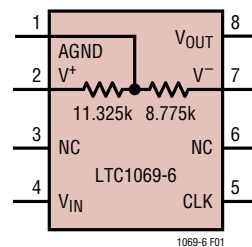

Figure 1. Internal Biasing of the Analog Ground (Pin 1)
**AGND (Pin 1):** Analog Ground. The quality of the analog signal ground can affect the filter performance. For either single or dual supply operation, an analog ground plane surrounding the package is recommended. The analog ground plane should be connected to any digital ground at a single point. For single supply operation, Pin 1 should be bypassed to the analog ground plane with a  $0.47\mu F$  capacitor or larger. An internal resistive divider biases Pin 1 to 0.4366 times the total power supply of the device (Figure 1). That is, with a single 5V supply, the potential at Pin 1 is  $2.183V \pm 1\%$ . As the LTC1069-6 is optimized
**CLK (Pin 5):** Clock Input Pin. Any TTL or CMOS clock source with a square wave output and 50% duty cycle ( $\pm 10\%$ ) is an adequate clock source for the device. The power supply for the clock source should not necessarily be the filter's power supply. The analog ground of the filter should be connected to the clock's ground at a single point only. Table 1 shows the clock's low and high level threshold value for a dual or single supply operation. A pulse generator can be used as a clock source provided the high level ON time is greater than 0.42µs ( $V_S = \pm 5V$ ). Sine waves less than 100kHz are not recommended for clock frequencies because, excessive slow clock rise or fall times generate internal clock jitter. The maximum clock rise or fall time is 1µs. The clock signal should be routed from the right side of the IC package to avoid coupling into any input or output analog signal path. A 1k resistor between the clock source and the Clock Input (Pin 5) will slow down the rise and fall times of the clock to further reduce charge coupling (Figure 1).